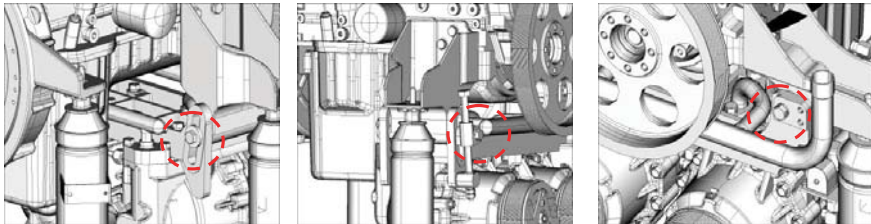

Figure 1 Location of the compressor bracket fixing bolt
- Loosen the compressor bracket fixing bolt. (refer to Figure1)